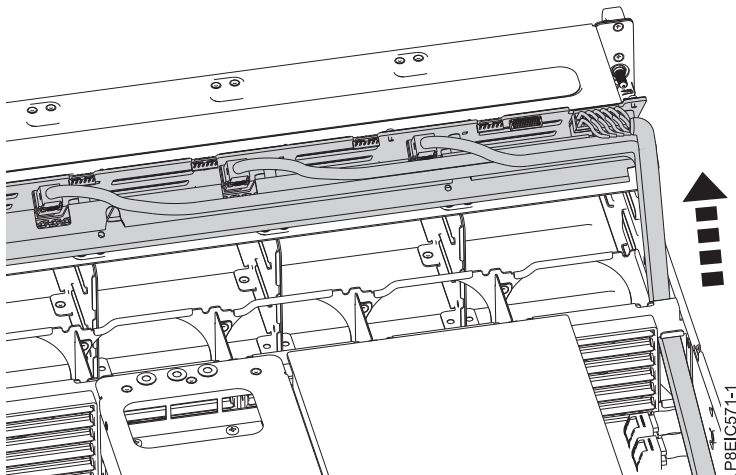

Figure 28. Removing the cables
10. Carefully pass the drive signal cables, drive power cable, and fan control cable through the chassis to remove them, as shown in Figure 28.